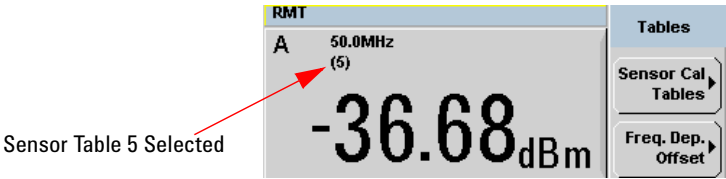

Figure 5-7 Frequency dependent offset indicator
- 3 Press **Done** to complete the selection of the calibration factor table. **Figure 5-7** shows which offset table is selected.